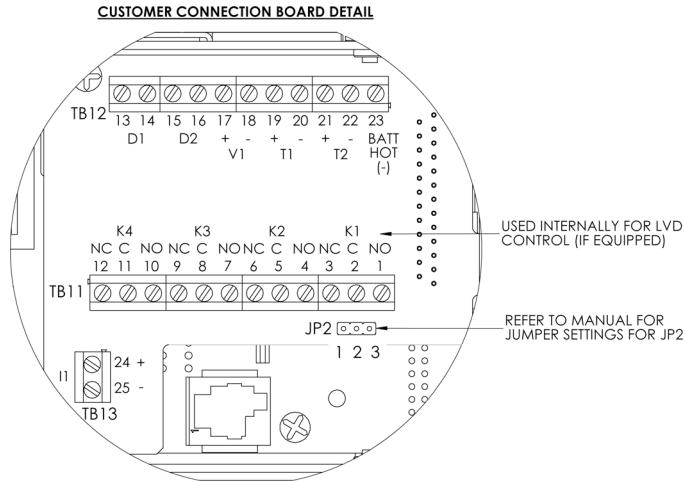

Figure 8—Location of LVD bypass jumper
- Locate JP2 on the back of CXCI/CXCI+ system shelf (Figure 8)
- Locate JP2 on the back of CXCI+ system shelf (Figure 8)